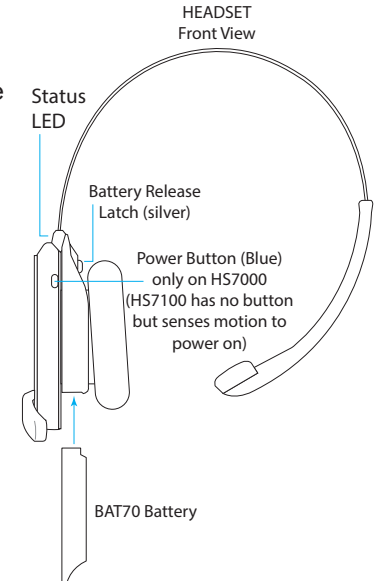

Fig. 3.3
- Install a charged BAT70 battery into the headset. It powers on when using HS7100* or press the power button to turn on when using HS7000 (Fig. 3.3). The LEDs flash green and red.